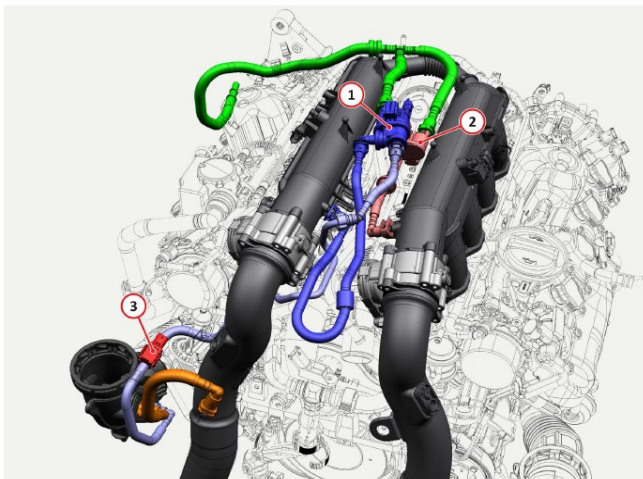
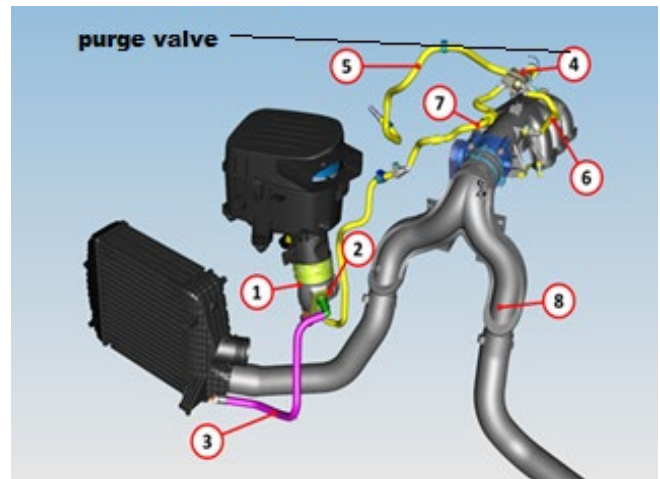

Figure 7: - High load purge line on V8 engine.
Figure 8: - High load purge line on V6 Levante.
6. Verify that all the components of the High load purge line system are properly installed and connected (Figure 7, Figure 8). These include connection pipes (from purge valve to manifold, to ejector tee and to the intercooler), make sure there are no leaks or obstruction of all the system components.